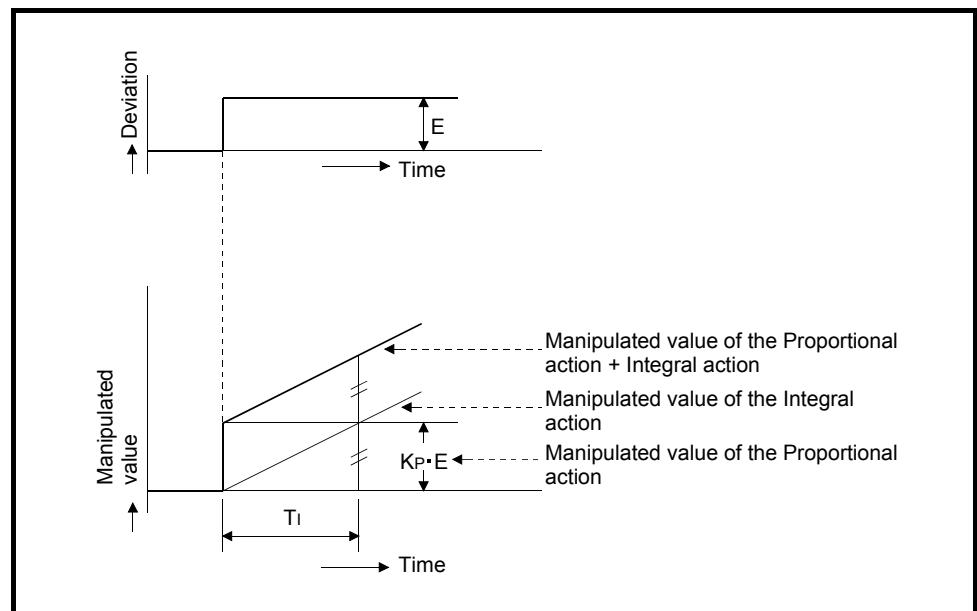

Fig. 1.8 Integral action for step response
- (2) In the integral action, the time from the deviation occurrence until the manipulated value of the integral action becomes that of the proportional control action is called the integral time, and is indicated by T_I .
- (3) Figure 1.8 shows the integral action for the step response with a constant deviation.
- (4) The integral action is used in the PI action in combination with the proportional action, or the PID action in combination with the proportional and derivative actions. The integral action cannot be used alone.